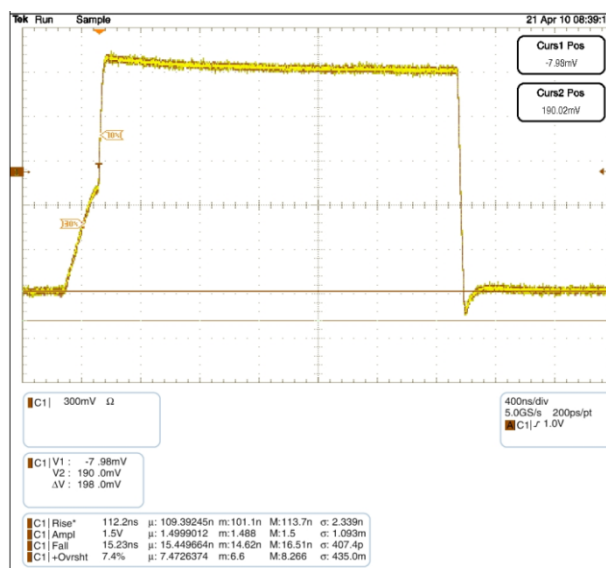

Figure 5. FXMA2102 Waveform C: 600 pF, R_{PU}: 2.2 K
Due to I²C's open-drain topology, I²C masters and slaves are not push/pull drivers. Logic LOWs are "pulled down" (I_{sink}), while logic HIGHs are "let go" (3-state). For example, when the master lets go of SCL (SCL always comes from the master), the rise time of SCL is largely determined by the RC time constant, where $R = R_{PU}$ and $C =$ the bus capacitance. If the FXMA2102 is attached to the master [on the A port] in this example, and there is a slave on the B port, the Npassgates act as a low resistive short between both ports until either of the port's $V_{CC}/2$ thresholds are reached. After the RC time constant has reached the $V_{CC}/2$ threshold of either port, the port's edge detector triggers both dynamic drivers to drive their respective ports in the LOW-to-HIGH (LH) direction, accelerating the rising edge. The resulting rise time resembles the scope shot in Figure 5. Effectively, two
The FXMA2102 dynamic drivers have enough current sourcing capability to drive a 400 pF capacitive bus. This is beneficial for instances when an I²C buffer / repeater is required. The I²C specification stipulates a maximum bus capacitance of 400 pF. If an I²C segment exceeds 400 pF, an I²C buffer / repeater is required to split the segment into two segments, each of which is less than 400 pF. Figure 5 is a scope shot of an FXMA2102 driving a lumped load of 600 pF. Notice the (30% – 70%) rise time is only 112 ns ($R_{PU} = 2.2$ K). This is well below the maximum edge rate of 300 ns. Not only does the FXMA2102 drive 400 pF, but it also provides excellent headroom below the I²C specification maximum edge rate of 300 ns.